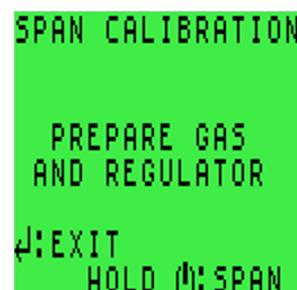

Figure 56: SPAN CALIBRATION Screen
3. Next, in a clean air environment, press and hold the **R** button to zero calibrate the monitor ranges. Once the zero calibration finishes, the monitor displays **SPAN CALIBRATION**, as shown in Figure 56: SPAN CALIBRATION Screen.